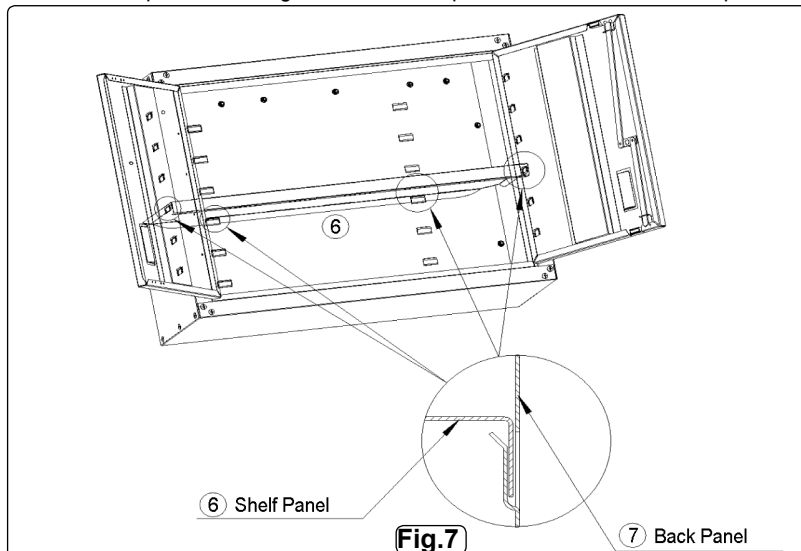

Fig.7
3.3.7 Installing Shelf (Fig.7)